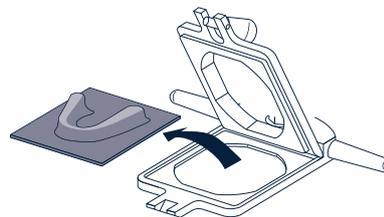

Fig. 8
8. Open the frame and take out the vacuum-formed plate, together with the model (fig. 8). Using large scissors, cut the plate from around the gypsum model. Gently detach the plate from the gypsum model, taking care not to distort it.